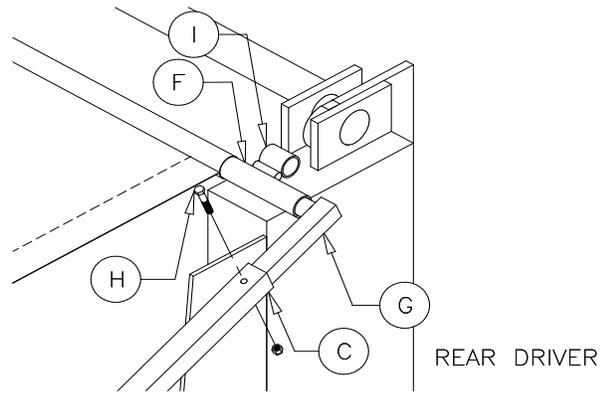

Figure 14
**Note:** Make sure that the distance the top pivot arm protrudes out of the bottom pivot arm is equal on both sides of the box. Using a 5/16" drill bit, drill through the bottom and top pivot arm on both sides of the box. Secure the pivot arms with the 5/16"x2" hex bolt (H) and 5/16" nylon lock nut provided (see Figure 14). Adjust the pivot arms so they are aligned with the sides of the box.